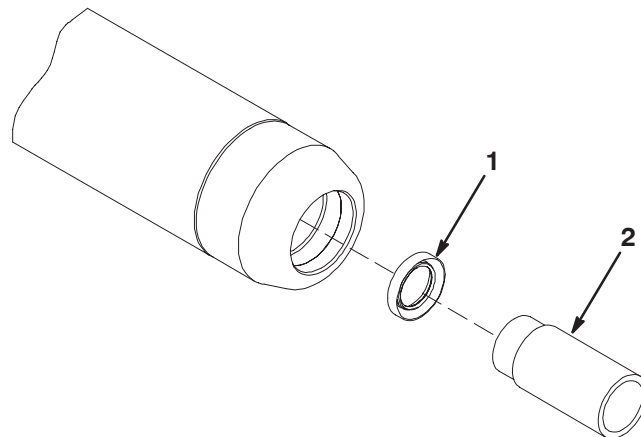
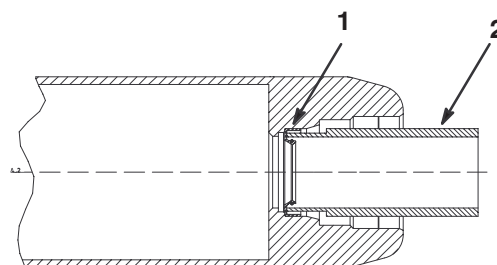

Figure 2
Figure 3
5. Using the Inner Seal Tool, install an inner seal into each end of the roller tube. Install the seal gently into the tool (Fig 2), then, lightly tap the seal into the roller tube until it is seated (Fig. 3).
Note: Make sure the seal is installed as shown in figures 2 & 3. The garter spring is to be facing toward the outside of the roller.